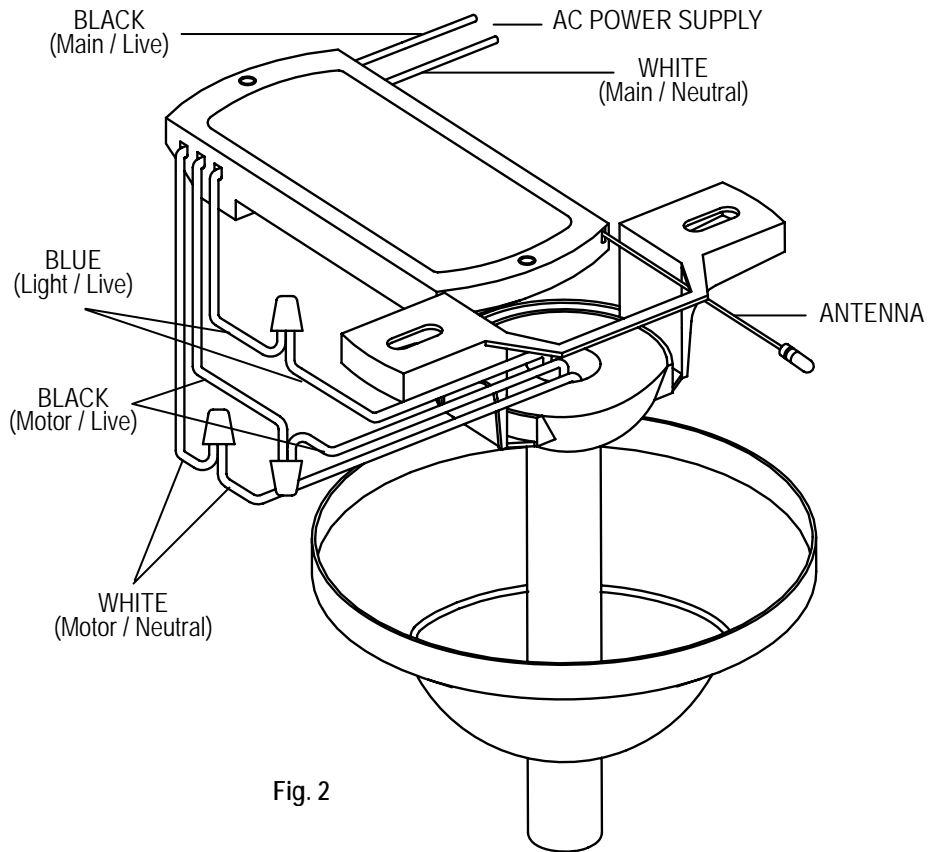

Fig. 2
3. Make wiring connections per Fig. 2. **CAUTION:** Incorrect wire connection can damage this receiver and could cause injury or fire.